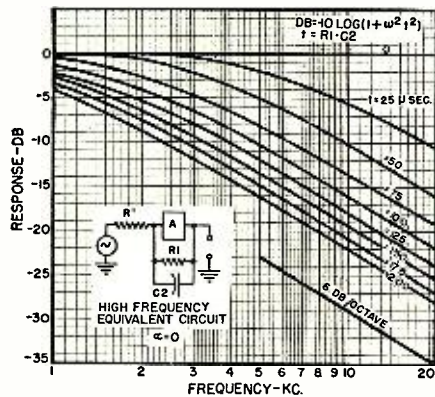

Fig. 6. De-emphasis curves when  $\alpha = 0$ .
Here there is a subtraction of two curves. One is the de-emphasis produced by  $10 \log [1 + (f/f_s)^2]$  and the other is a rise produced by  $10 \log [1 + (f/f_r)^2]$ . When  $R_3=0$ , the second curve disappears and a simple de-emphasis curve results. (See Fig. 6).
In a great many cases simple de-emphasis, where  $\alpha = 0$ , is required. Fig. 6 shows actual response curves for this condition.  $C_2$  for a particular response is found by solving equation (12).